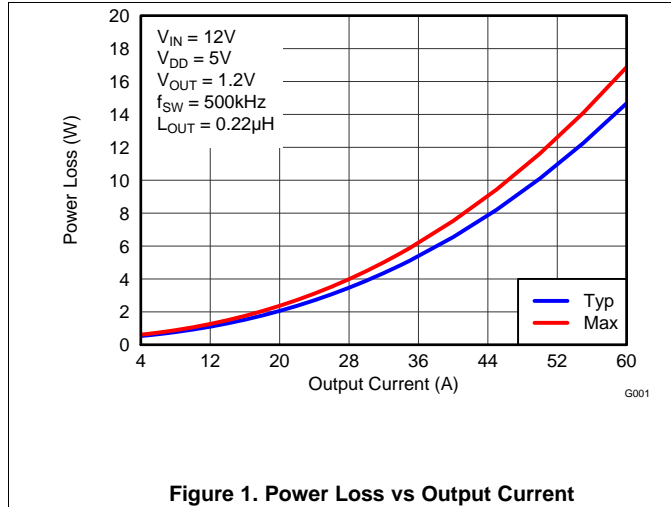

Figure 1. Power Loss vs Output Current
MOSFET centric parameters such as  $R_{DS(ON)}$  and  $Q_{gd}$  are primarily needed by engineers to estimate the loss generated by the devices. In an effort to simplify the design process for engineers, Texas Instruments has provided measured power loss performance curves. Figure 1 plots the power loss of the CSD95372AQ5M as a function of load current. This curve is measured by configuring and running the CSD95372AQ5M as it would be in the final application (see Application Schematic). The measured power loss is the CSD95372AQ5M device power loss which consists of both input conversion loss and gate drive loss. Equation 1 is used to generate the power loss curve.
The power loss curve in Figure 1 is measured at the maximum recommended junction temperature of  $T_J = 125^\circ\text{C}$  under isothermal test conditions.
- Typical Power Loss at 40 A = 6.5 W (Figure 1)